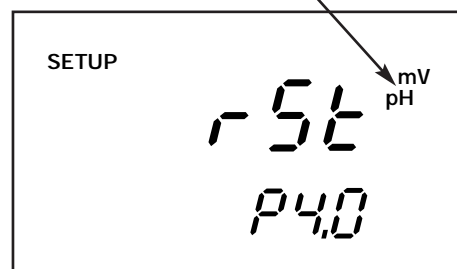

Figure 59
2. Press **▲** and **▼** keys to scroll through the programs until you view **rSt** in the primary display and **P4.0** in the secondary display. The mV and pH annunciators also appear. —See Figure 59.